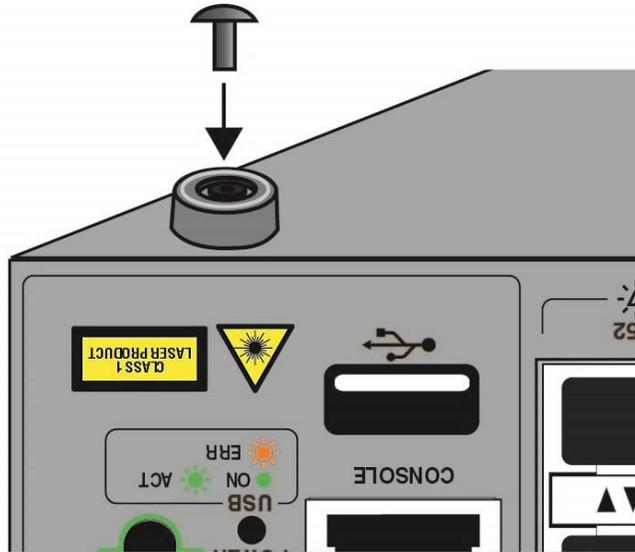

Figure 18. Inserting the Rivet into the Bumper Foot
- c. Insert the rivet to secure the bumper foot to the base. Refer to Figure 18 on page 49.